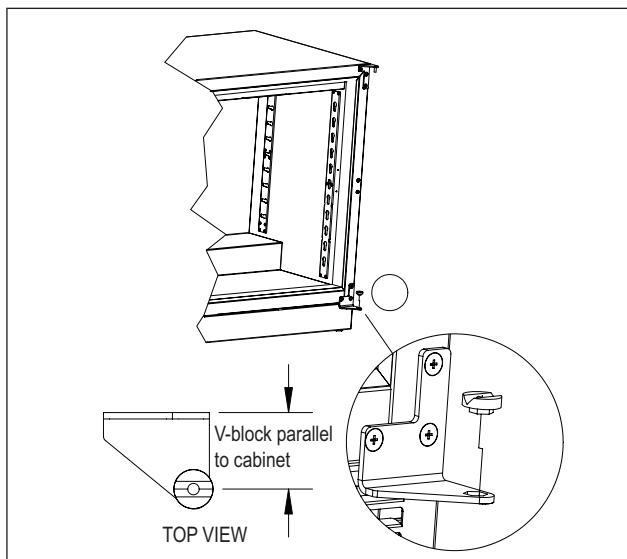

**Figure 8. Bearing and V-Block**
8. Insert bearing into door top hinge bracket (Figure 8).
9. Insert V-block into door bottom hinge bracket and attach with e-clip (Figure 8). Note the orientation of the V-block.